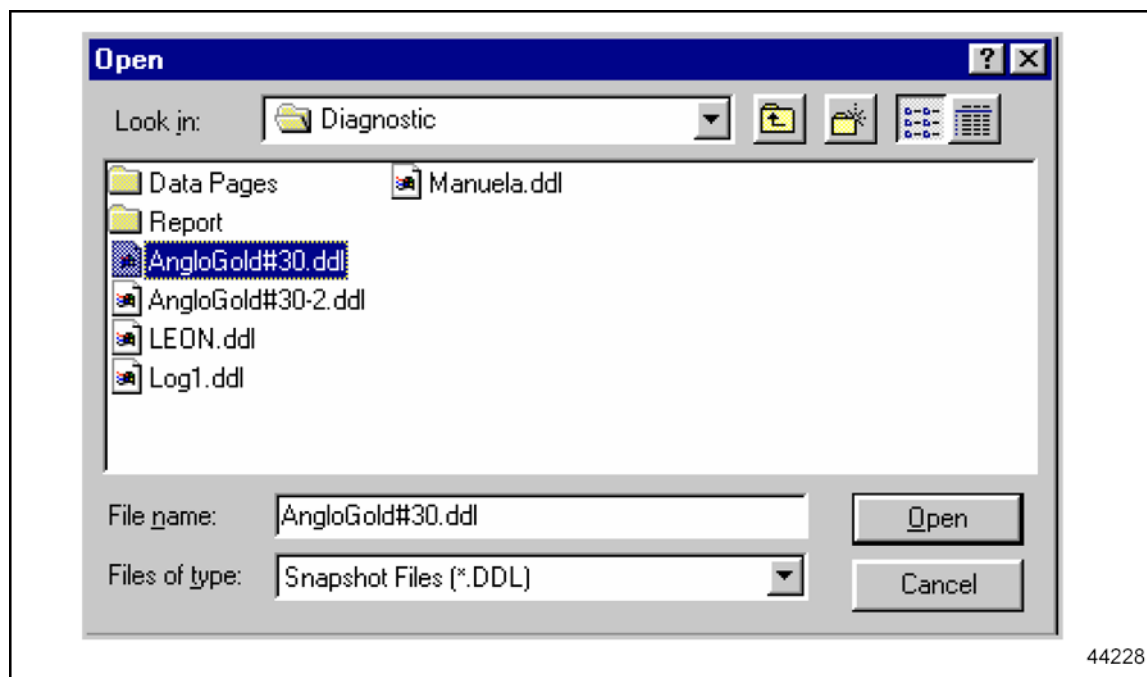

Figure 6-6 **Snapshot Dialog Box**
2. A dialog box will appear listing all the available snapshot files. See Figure 6-6.